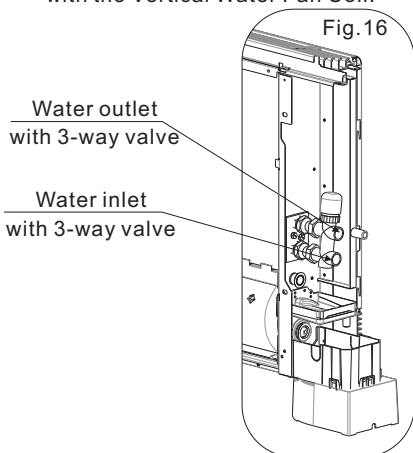
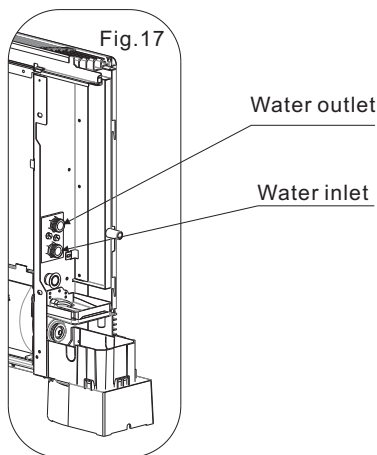

fig. 16
Fig.17
4.4.1 Refer to fig.16 and fig.17 to connect the inlet and outlet lines. The hydraulic lines and